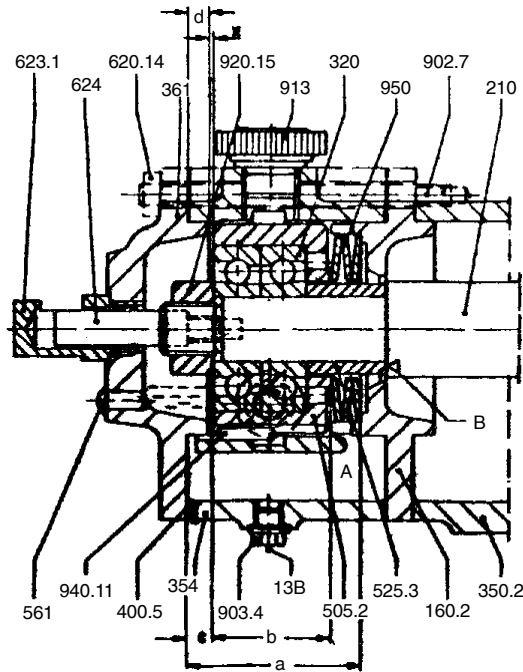

Fig. 1 Lift-off device : Antifriction bearing Pump construction : Antifriction bearing.
5. Adjustment of lift off limitation X (Fig. 1). Desired (specified) dimension = 1.0 ± 0.1 mm. Dimension "d" on bearing end cover (361) plus thickness of gasket (400.5) must amount to "c" - 1.0 ± 0.1 mm. If there is any significant deviation, the bearing end cover (361) must be machined accordingly.
6. Unscrew hex. nut (920.15) and dismantle retainer ring (505.2) together with bearing (320). Insert the cup spring (950) and retainer ring (505.2) and slip again the complete set onto the shaft (as described in section 4.3) until it abuts against the spacer sleeve (525.3) and fasten hex. nut (920.15). Insert key (940.11).
7. Screw in the indicator (624).
8. Attach bearing end cover (361) together with indicator bush (623.1) and gasket (400.5) to thrust bearing housing (354). See operating instruction of pump for description of the indicator bush.